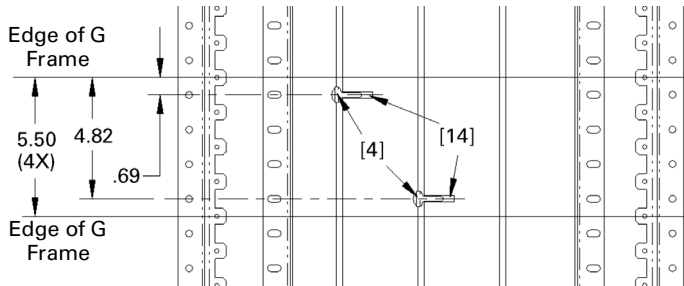

Figure 9. Installing carriage bolt assemblies on phases A and B.
**5a. Install carriage bolt assemblies on phases A and B.** Position the carriage bolt [14] and antiturn clip [4] assemblies as shown in Figures 9 and 10.